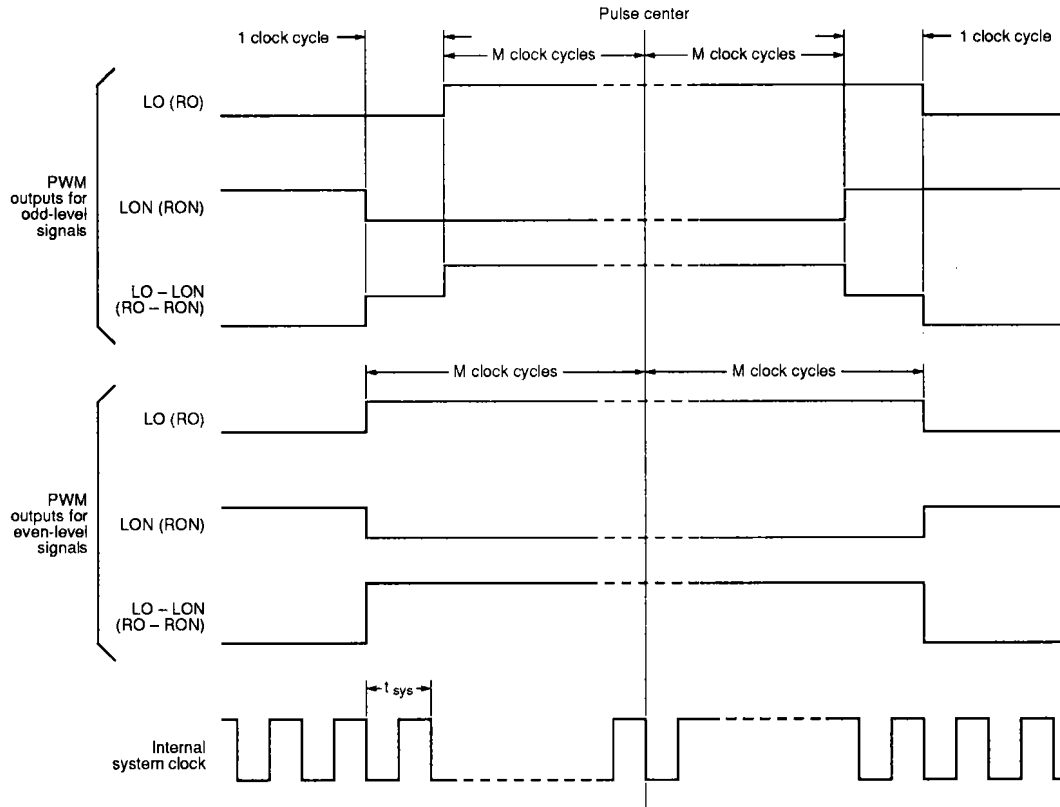

Figure 12. Pulsewidth modulation waveforms
– LON) and (RO – RON) are symmetrical as shown in figure 12. Even-valued output signals have symmetrical waveforms. Using this output method, the SM5872A/B can operate at half the clock frequency required by conventional devices.